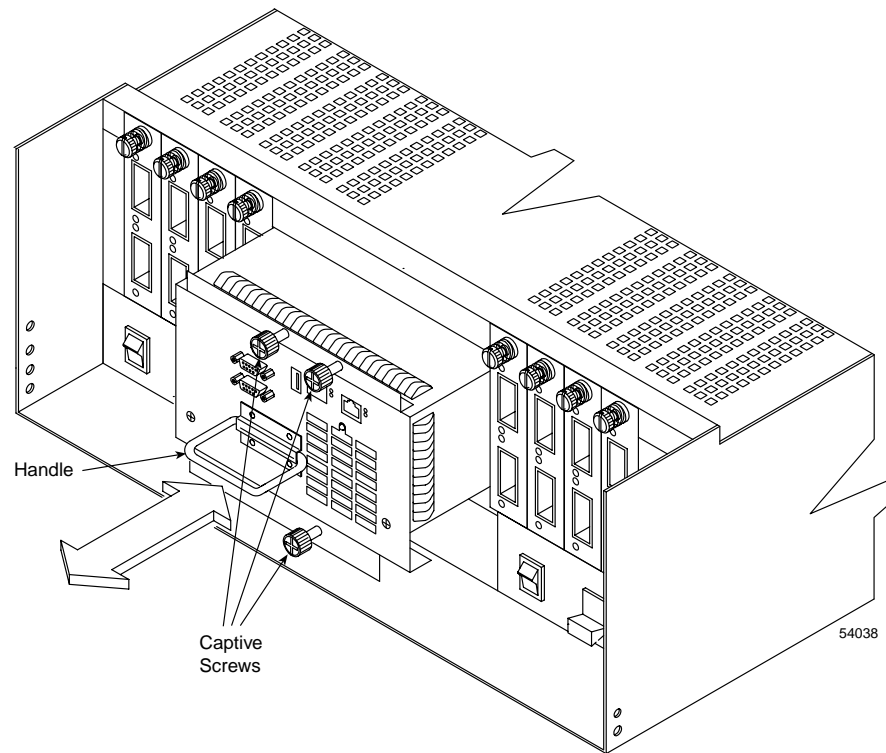

Figure 4-10 Removing and Installing a Fan/Communications Canister
4. Remove the failed fan/communications canister from the controller enclosure (see Figure 4-10). Using a flat-blade screwdriver, loosen the three captive screws on the fan/communications canister. Use the handle to pull the canister out of the slot a few inches. Then grasp the sides of the canister with both hands and remove it from the controller enclosure.